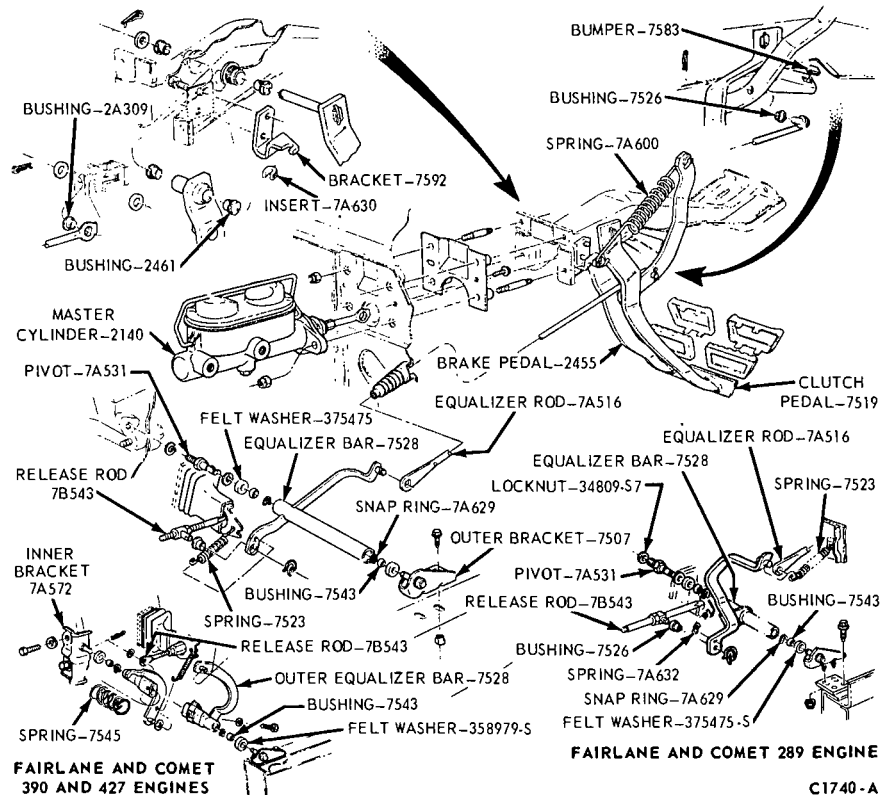

FIG. 2—Fairlane and Comet Clutch Linkage Disassembled
2. Loosen the release lever rod lock nut (Figs 2 and 3).
1. Remove the retaining clip (Fig. 2) that secures the equalizer rod to the clutch pedal. Disconnect the rod from the pedal.
1. Disconnect the clutch pedal equalizer rod at the equalizer bar (Fig. 2).